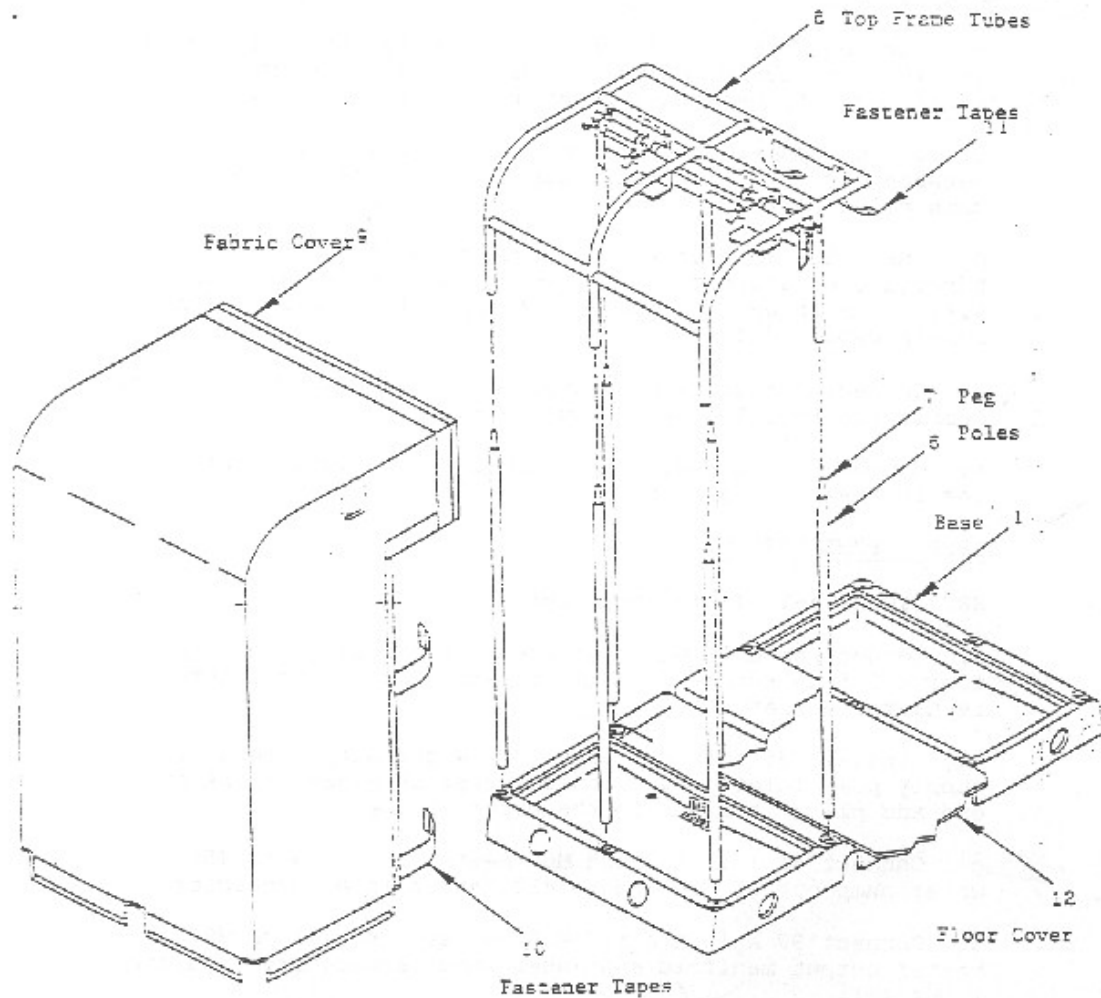

Figure 3-10
5. Set up shower frame assembly (See Figure 3-10 within Task 101-92S-1027)
- a. Install six vertical support poles (6) with peg (7) facing upward in one of the middle base assembly (1).
- b. Position top frame assembly (8) over vertical support poles with overhang toward the center. Align the pole pegs with top frame tubes and lower until firmly seated.
- c. Position fabric cover (9) over the top frame assembly. Pull fabric cover down and secure to vertical support poles using hook and fastener tapes (11). Secure cover to base assembly with hook and fastener tapes (10). Repeat steps (a) through (c) for the remaining middle base assembly.
- e. Position shower floor cover (12) over central walkway and secure with faster tapes.
5. Disassemble the six shower top frame assemblies. (See Figure 3-10)